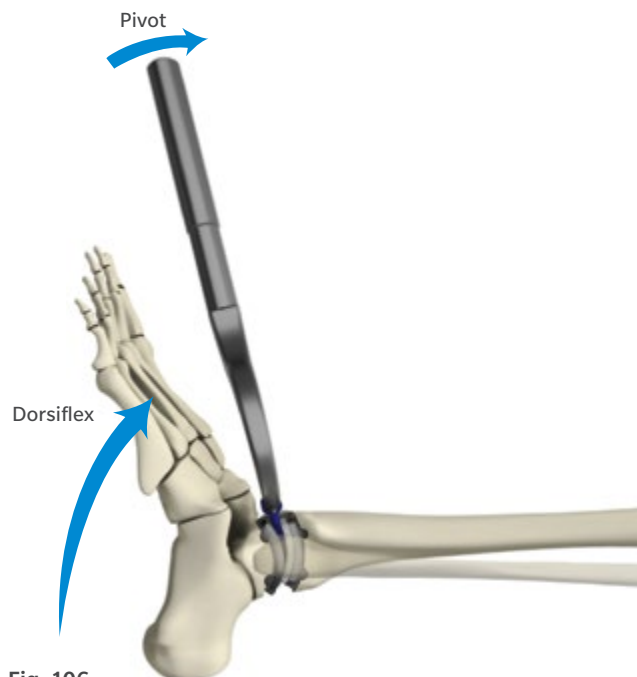

Fig. 106
- Pivot the Poly Revision Assembly Tool proximally until the Poly Insert engages with an audible or palpable click (Fig. 106).